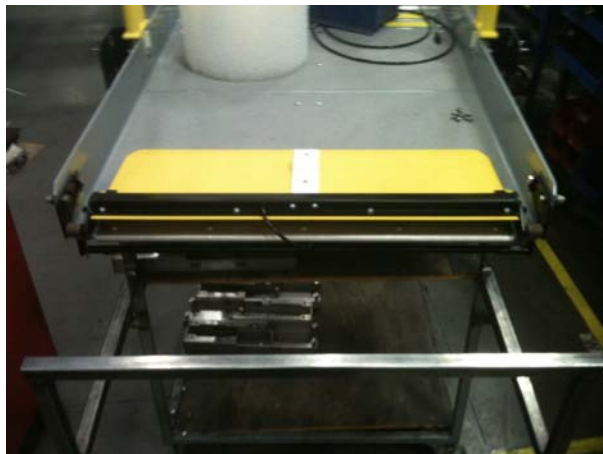

FIGURE 2-11. BRIDGEPLATE IN CLOSED POSITION
- 2.) Refer to **Figure 2-11**. Fold bridgeplate onto platform to perform adjustment.